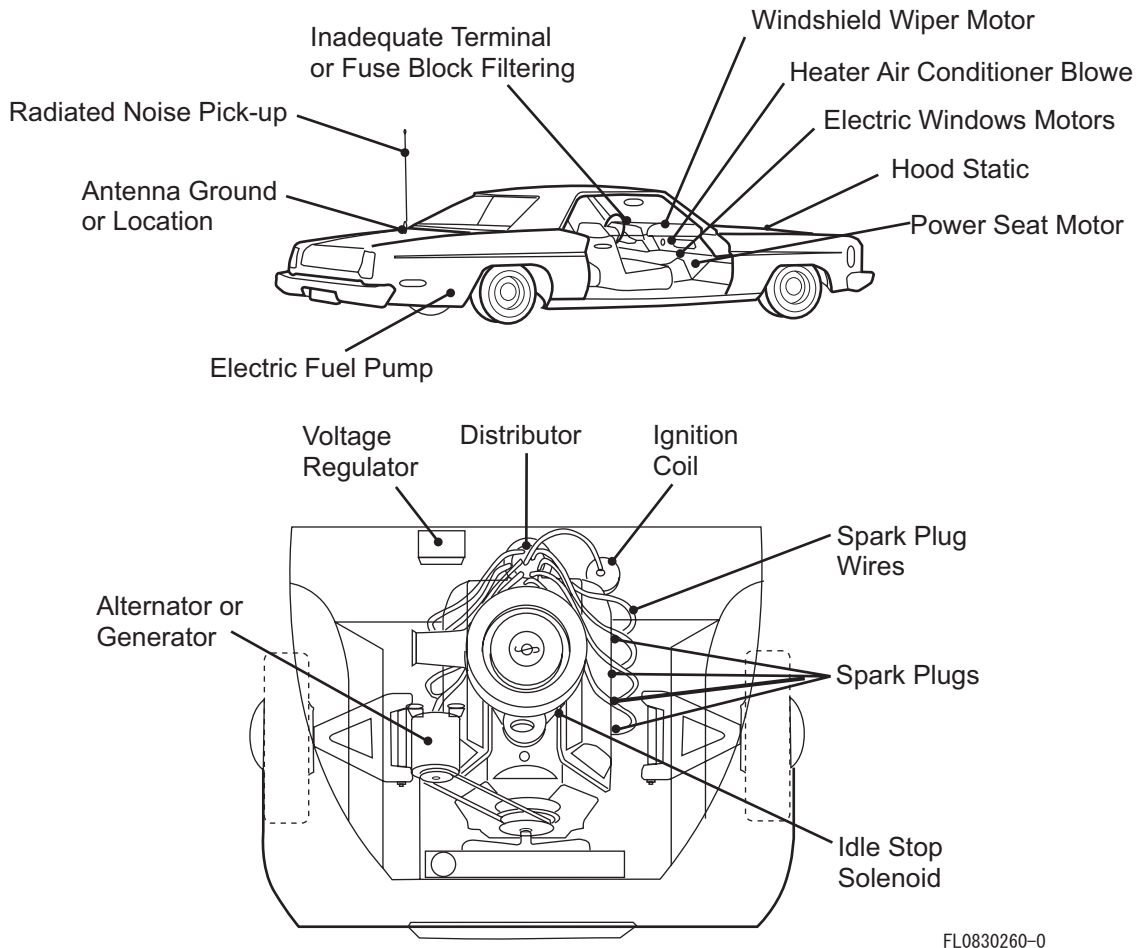

Figure 2-1 Noise Sources
The three major noise sources affecting mobile radio systems are: (1) radiated noise, (2) conducted noise, and (3) induced noise. (See Figure 2-1 for typical vehicular noise sources.)